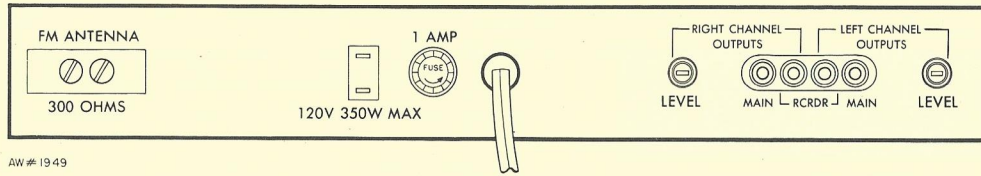

FIGURE 1. Rear panel of the FM-100-B.
1. Connect the FM antenna to the two screw terminals marked FM ANTENNA on the rear panel, as shown in Figure 1. The folded dipole antenna supplied with the *FM-100-B* should be more than adequate for most areas. The arms of this antenna should be horizontal, in a straight line, and away from all large metal objects and electrical wiring. After the antenna has been connected and the *FM-100-B* put into operation, the antenna should be rotated horizontally, to determine the orientation for best reception. In apartment buildings and other buildings using